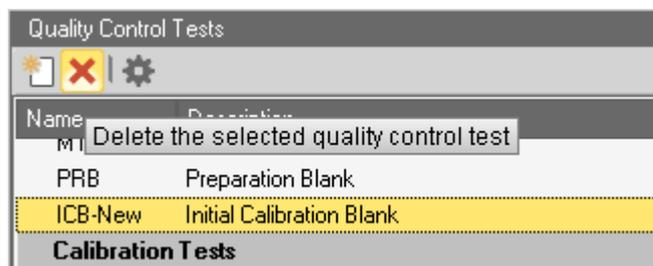

Figure 10-5. Delete non-default Quality Control Test
3. Select the *Quality Control Test* you wish to delete, see Figure 10-5.